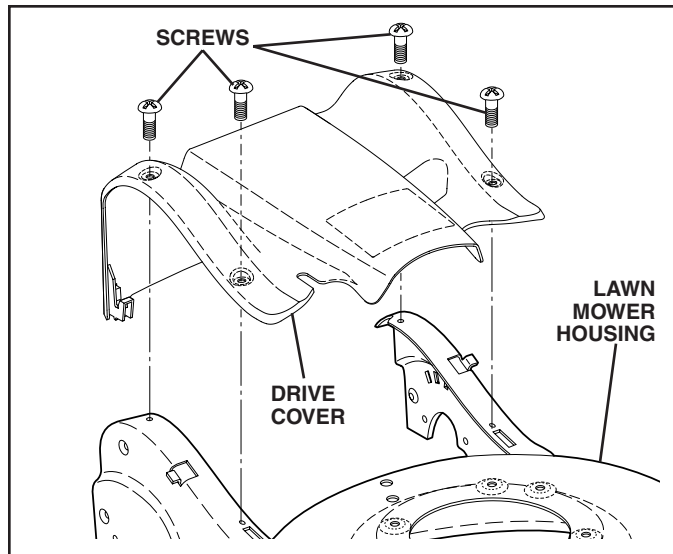

FIG. 20
TO REMOVE DRIVE BELT (See Figs. 20–22)
2. Remove screws retaining drive cover and remove drive cover from lawn mower housing (See Fig. 20).
TO REPLACE DRIVE BELT (See Figs. 20–23)
11. Reattach drive cover with screws previously removed (See Fig. 20).